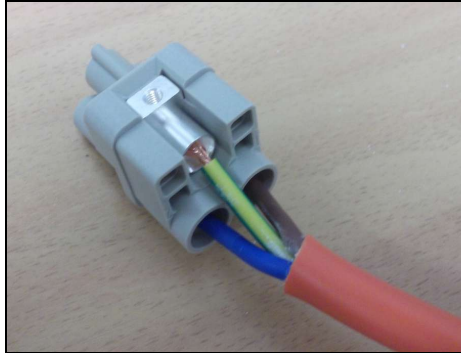

Figure 4.2.4: Harting Han® Q2/0 connector insert – UK wiring orientation
7. Repeat these steps for the Live (L1) and Neutral (L2) conductors as shown in figure 4.2.4. Note that UK wiring colours are displayed in the photo.